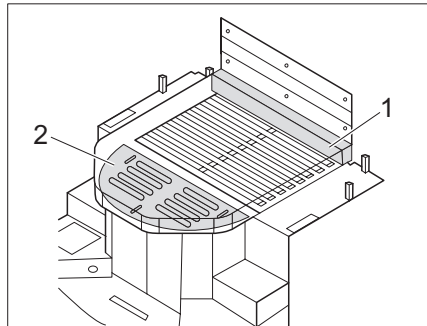

Fig. 108 Bed with mattress extension (with additional mattress and pull-out base)
- Place additional mattress (Fig. 108,1) on the front side of the queen bed.
- Pull out the pull-out base (Fig. 108,2).